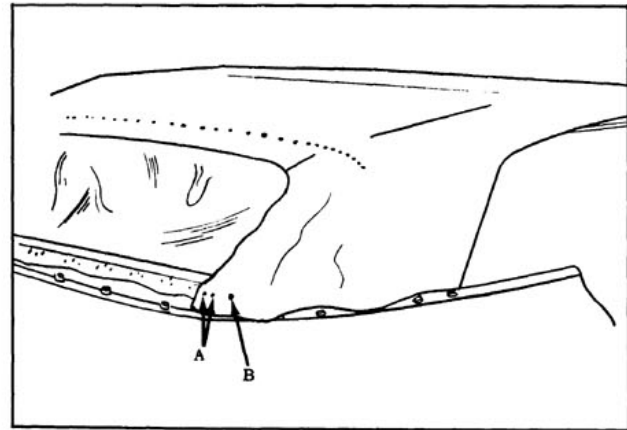

Fig. 16-144 Tacking Top Material
35. Using previously marked lines (ends of trim stick) as locating reference, tack top material to rear and rear quarter trim sticks. "A" in Fig. 16-144 shows top material installed to rear trim stick at inboard edge.